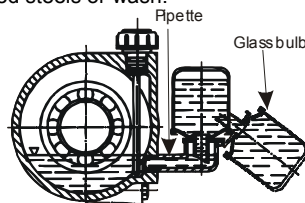

Fig.3: Oiler
- Turn over the glass bulb and pour oil into the pipette until it reaches the level as indicated in the *fig. 3*: fill the glass bulb and put it into the vertical position. Check that the level of the glass bulb remains constant. The types of oil indicated in tab.1 are valid for temperatures between -10° and 120°C.